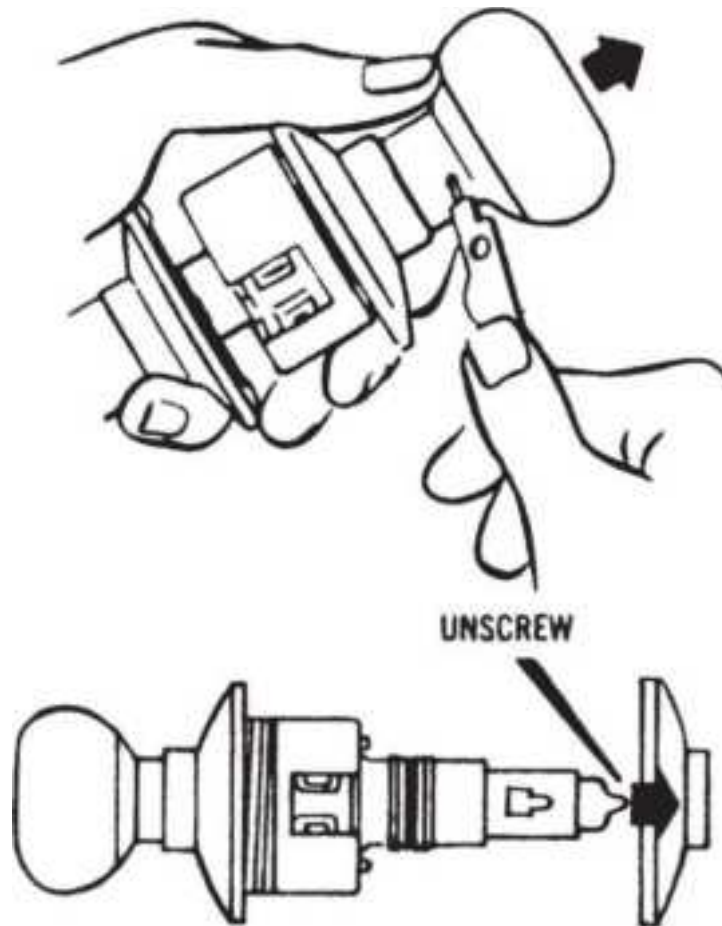

**Figure 19.45** Electrified key-in-knob lock installation, Step 3.
3. Remove the lock from the box and remove the inside trim by inserting the small end of a spanner wrench through the hole in the knob bearing sleeve. This hole faces the latch retractor. Press the knob catch to slide the knob off the spindle and remove the rose from the threaded sleeve (Fig. 19.45 ).